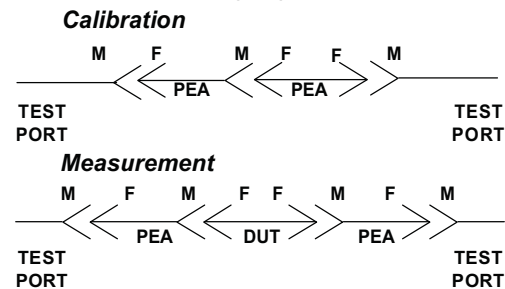

Figure 7-4. Using Phase-Equal Insertables
- ❑ It provides a simple solution to measuring non-insertable devices (e.g., a filter with K female input and output connectors) by merely swapping PEAs after calibration. See Figure 7-4